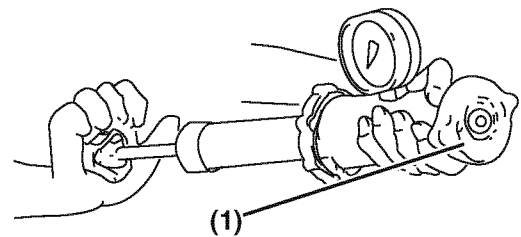

Figure 8-10
1. Check for proper operation of the radiator cap. Install the radiator cap (**Figure 8-10, (1)**) on a cooling system tester.